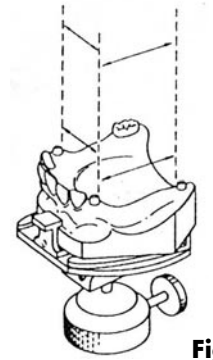

Fig. 10
3. Survey the model and establish a common path of insertion (Fig. 10).